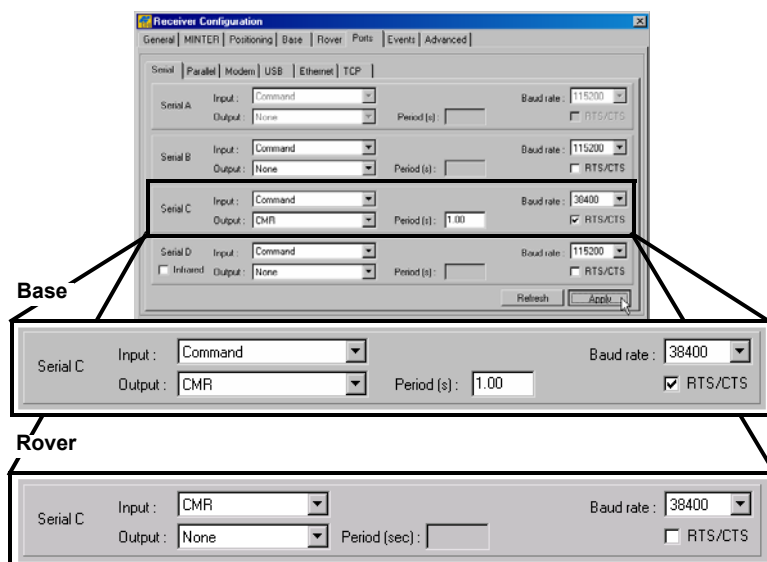

Figure 3-12. Base and Rover Configuration for RTK Surveys – Ports
11. For RTK surveys, click the *Ports* tab and set the following port parameters for the serial port (Table 3-5), then click **Apply** (Figure 3-12 on page 3-16).